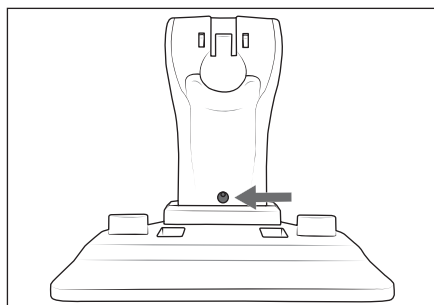

Fig. 1
- 1) Use the opening in the appliance cradle ㉒ to draw the hole on the wall (Fig. 1).
- 3) Plug the barrel plug ⑭ of the mains adapter ⑬ into the charging socket ⑮ on the underside of the charging station ㉑. Feed the cable of the mains adapter ⑬ through one of the side recesses on the rear of the charging station ㉑, depending on which side the power outlet is located.
- 4) Insert the screw through the opening in the appliance cradle ㉒ (Fig. 1) and screw it into the wall plug with a Phillips screwdriver.
- 3) Insert the screw **12** into the screw hole at the back of the handle rod **11**. Tighten the screw **12** with a Phillips screwdriver by turning it clockwise (Fig. 1).